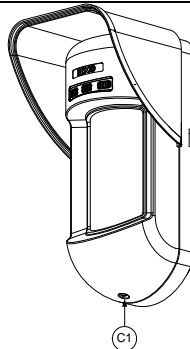

Figure 1
1. Open WatchU front cover (unlock C1, Figure 1).
8. Close the front cover (Lock C1, Figure 1) after wiring and setting DIP switches.